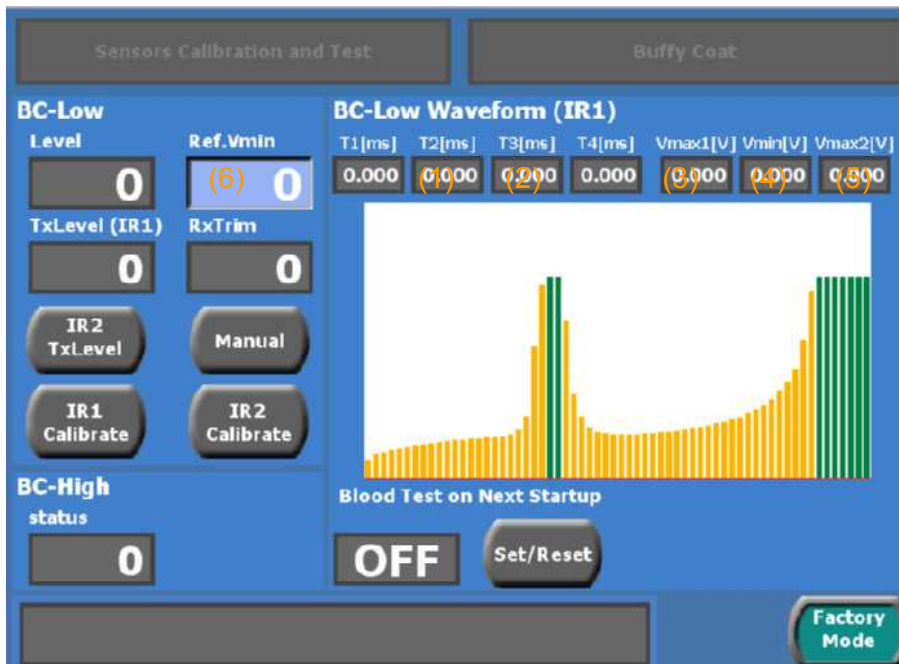

Fig. 13.7-2
- a) If the displayed signal and data comply with the signal and the values in the fig.13.7-2 and table 13.7-1, press **Store**;
- b) If they do not comply with the signal and the values in the fig.13.7-2 and table 13.7-1, press **Cancel**;